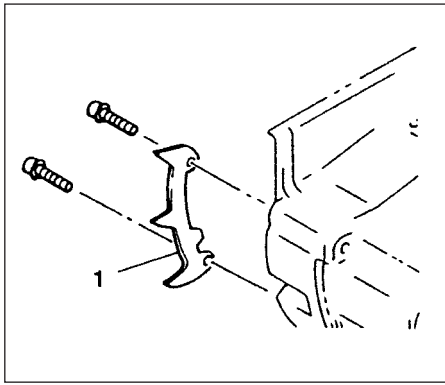

Fig.1-0
\* Install the spiked bumper (1) (if so equipped) to the unit with the two screws. (Fig.1-0)